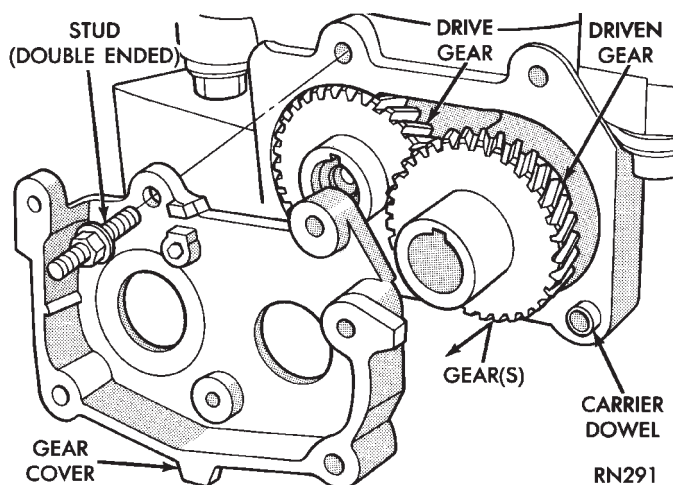

Fig. 36 Gear Cover and Gears
- (4) Remove carrier gear cover and balance shafts (Fig. 36).
- (5) Remove four carrier to crankcase attaching bolts to separate carrier from engine bedplate.